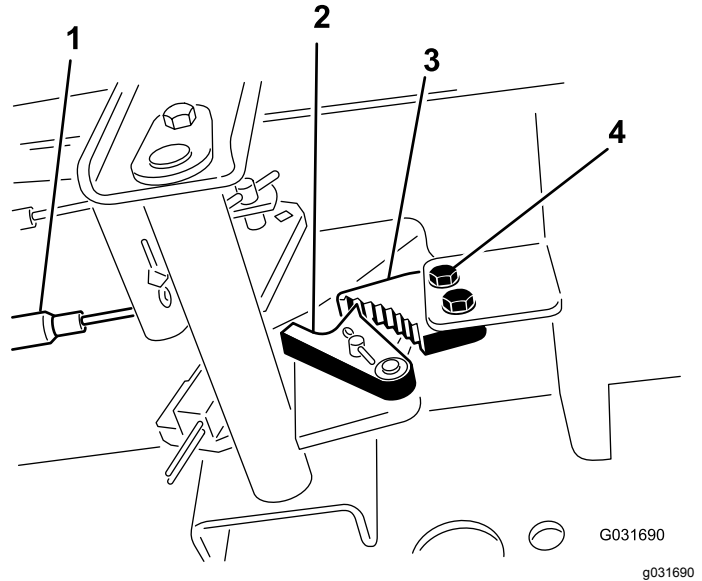

Figure 73
1. Loosen the 2 screws securing the parking brake pawl to the frame (Figure 73).
2. Press the parking brake pedal forward until the brake detent completely engages on the brake pawl (Figure 73).